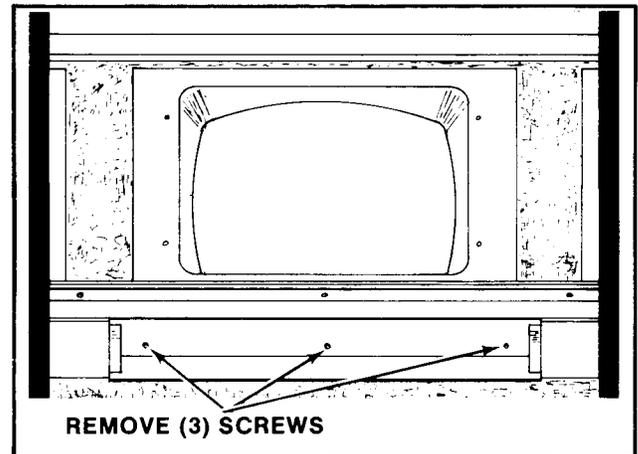

Figure 4-20 Removing Black Light Tube Mtg. Brkt. — Upright
- Remove the screws which secure the black light tube mounting bracket to the cabinet. See Figure 4-20.